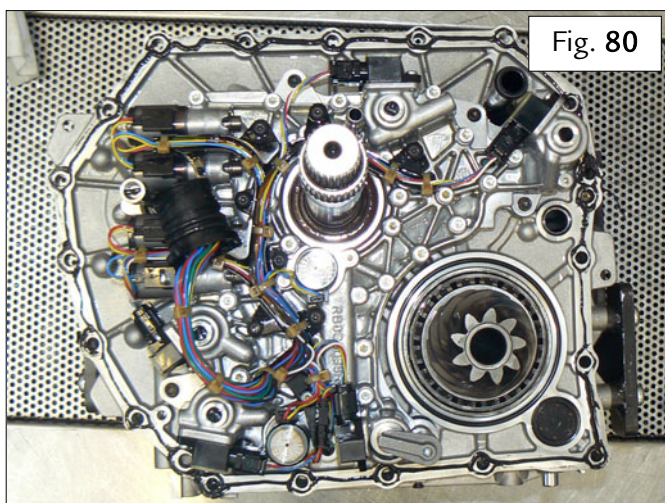

Fig. 80
- The continuous bead of **Loctite 5970** must look like the example shown in the photo aside – Fig. 80.